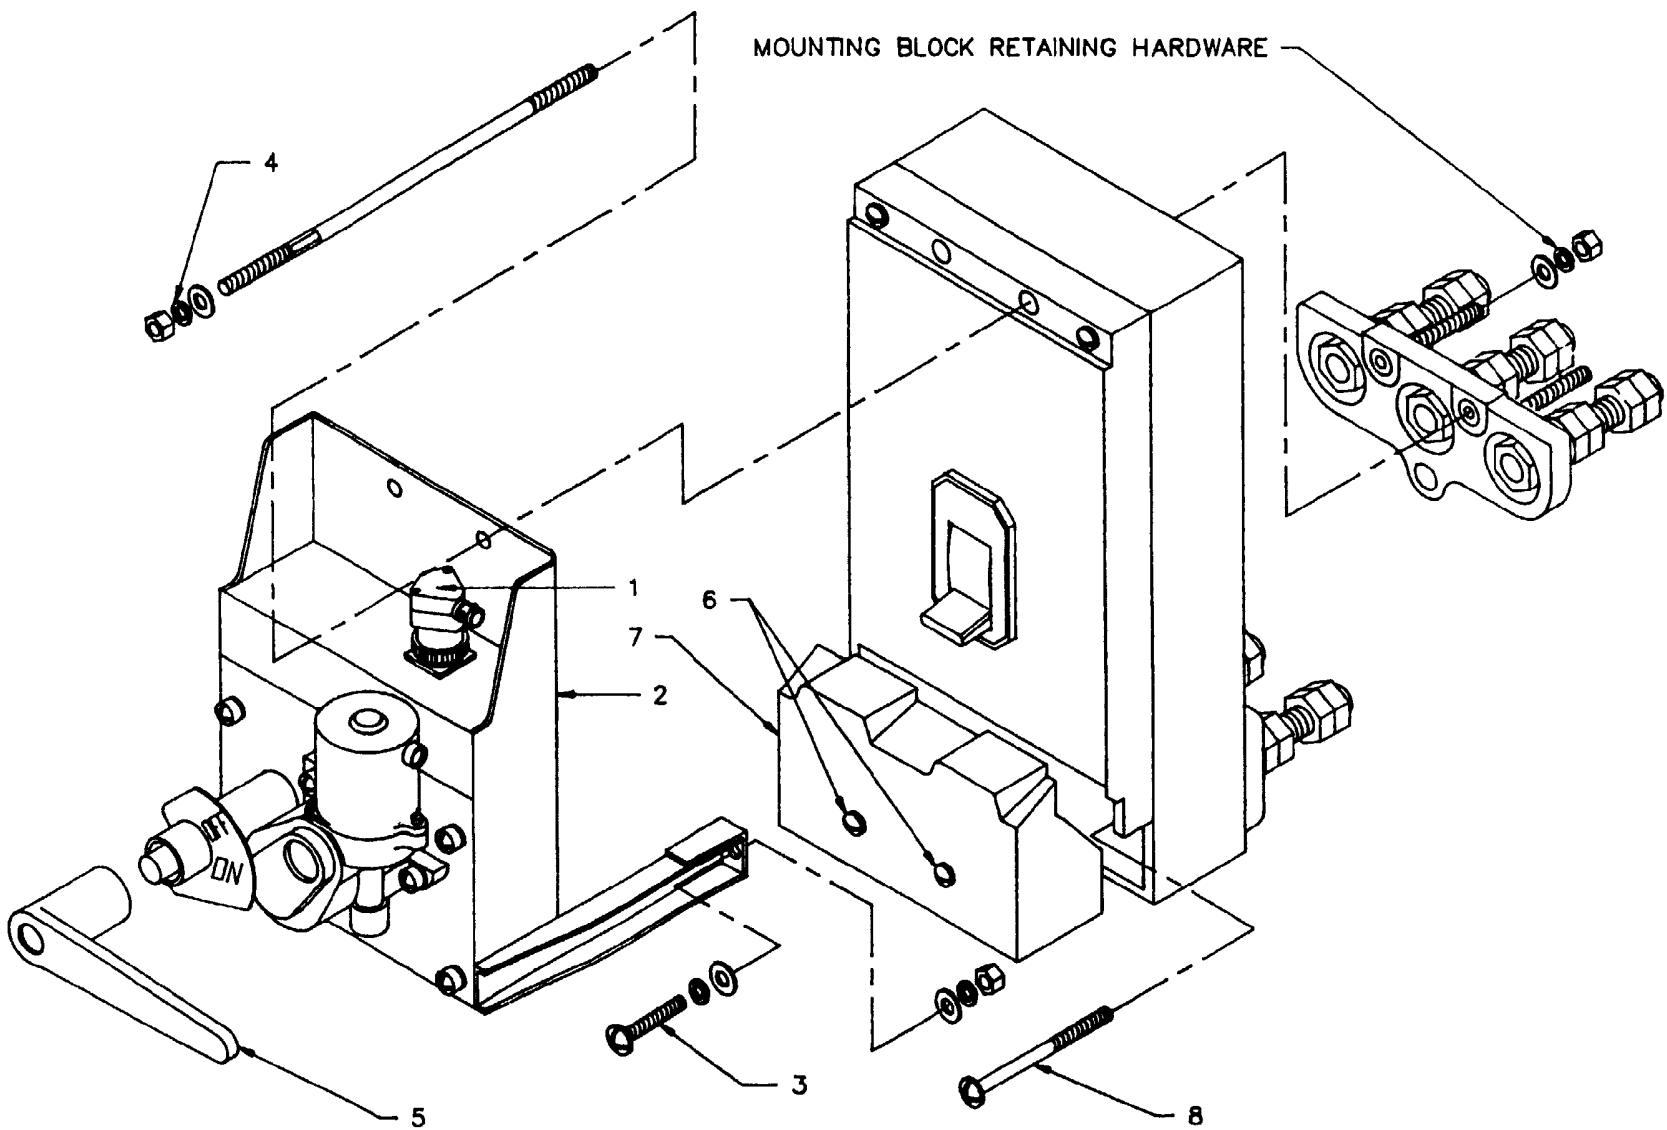

Figure 6-8. AQB-LF400 Molded Case Circuit Breaker with Motor Operator
See figure 6-8. For detailed repair or replacement of internal components, refer to the corresponding publication in table 6-1.
- b. With the handle furnished for the motor-operator (5), turn to the OFF position. This opens the circuit breaker and moves the breaker operating handle to the OFF position.
- d. Disengage the motor lead plug connector (1) located on the upper face of the motor mechanism (see figure 6-8).
- f. Remove the screws (3) at the rear of the mounting bracket of the motor-operator (2). Retain the hardware. Remove the two hex nuts (4) on the through bolt. Retain hardware. Pull the entire motor mechanism (2) away from the circuit breaker (see figure 6-8).
- g. Loosen fuse cover retaining screws (6) and pull fuse unit cover (7) away from circuit breaker.
- h. Loosen lower circuit breaker mounting screws (8) and remove circuit breaker by pulling away from stabs.